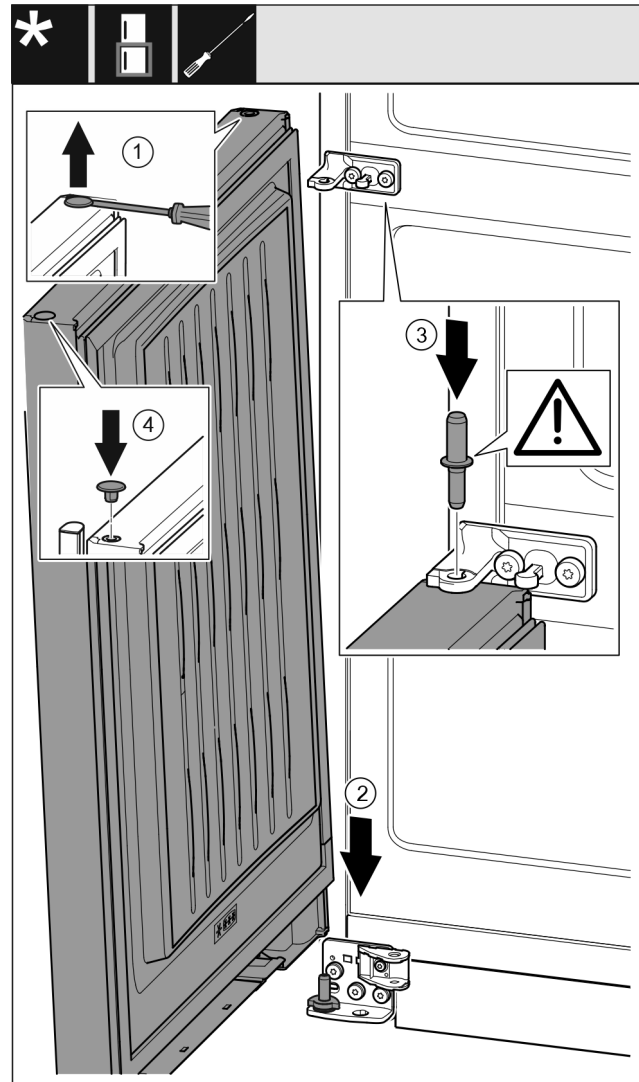

Fig. 41
- ▶ Carefully lift the plug Fig. 41 (1) with a slotted screwdriver and pull it out.
- ▶ Fit the door Fig. 41 (2) onto the lower bearing pin from the top.
- ▶ Insert the center bearing bolt Fig. 41 (3) through the center swap bearing block into the bottom door. In the process, make sure that the latching cam shows towards the rear.
- ▶ Reinsert the plug Fig. 41 (4) on the other side of the door.